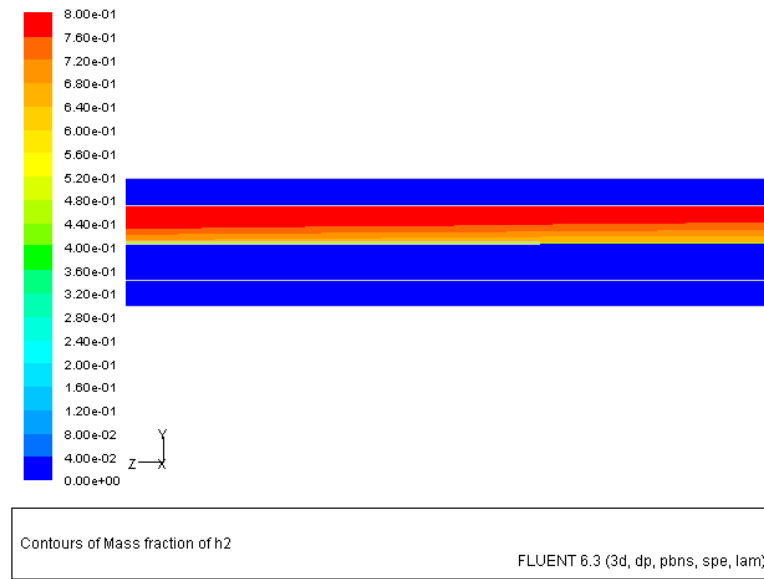

Figure 6: Contours of Hydrogen Mass Fraction Along the Channel Length
- (i) Compare your result with that shown in Figure 6.